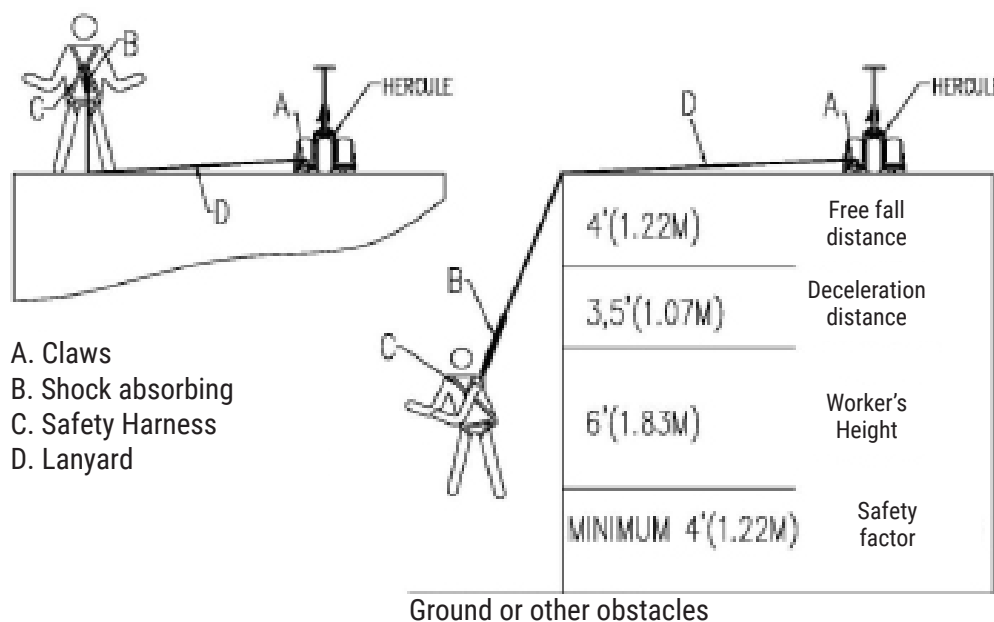

Fig. 1
1. Minimum Safe Distance Required, A competent person must ensure that the system is set up in such a way that considering the distance of the fall, the HERCULES Mobile Anchoring System will only be used in fall arrest mode on roofs or structures with enough minimum safe distance from the ground or a lower level to prevent the worker from falling far enough to hit the ground or the lower level. There should be at least a 3 foot margin of safety added to the fall distance calculations. A Competent Person must always do the necessary calculations to ensure that the minimum height restrictions are adhered too. Note: There are different limits to the amount of free fall allowed in some jurisdictions. There are a number of ways to calculate this distance including a "Splat Bag" or other equipment available from fall protection equipment suppliers or by calculating the distance taking into account the length of the lanyard and shock absorber - one of these calculations is described in (See fig. 1)